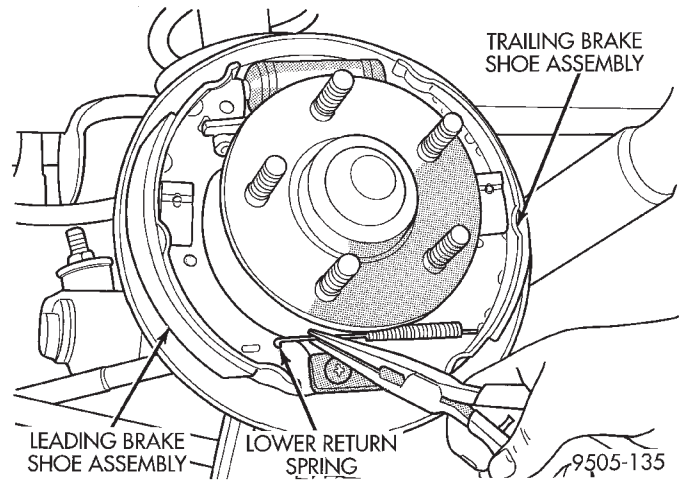

Fig. 110 Lower Brake Shoe Return Spring
(8) Remove the lower return spring from the leading and trailing brake shoe assembly (Fig. 110).
(7) Install the lower return spring onto the leading and trailing brake shoe assembly (Fig. 110).